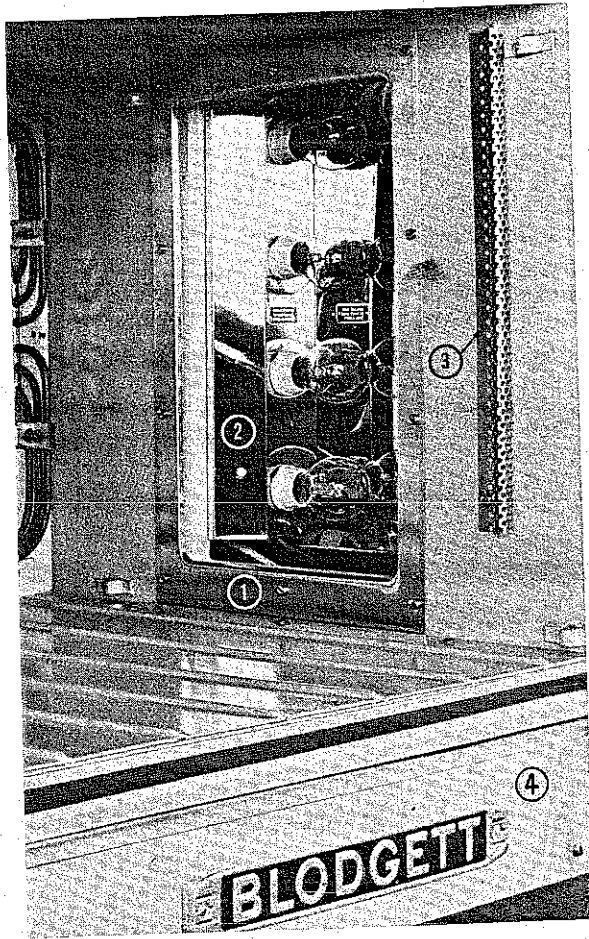

FIG. 7
2. Remove stainless trim piece and lighting window together. (Figure 7, No. 1)
3. Remove screws in lamp socket support and pull support into oven interior. (Figure 7, No. 2)
4. Remove thermostat bulb guard. (Figure 7, No. 3)
2. Remove name plate panel (Figure 7, No. 4).